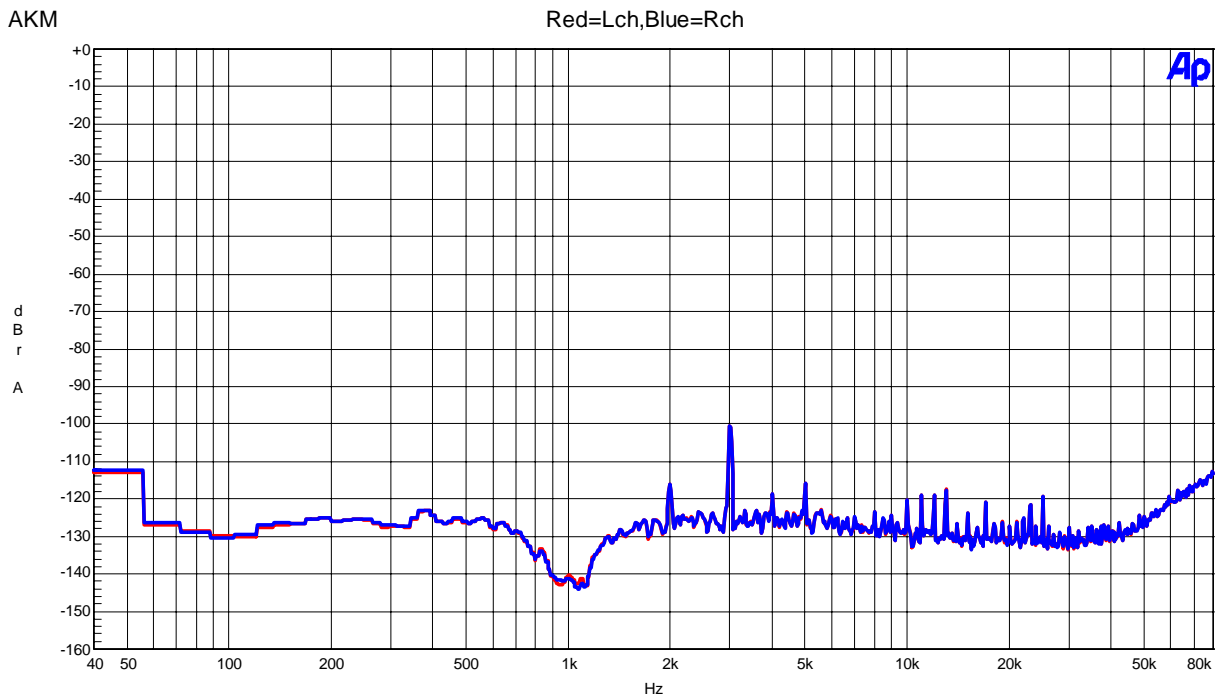

Figure 44. FFT(Input Frequency=1kHz, Input Level=0dBFS,Notch-on)
- Figure 44. FFT (out-of-band noise)